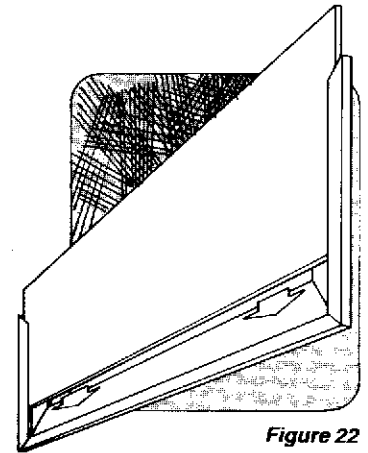

Figure 22
**C)** Slide panel into position in grille frame as shown in Figure 22.